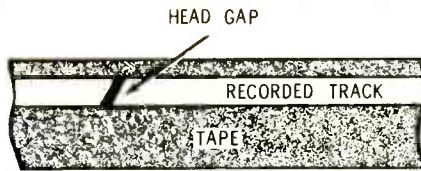

Figure 5
18. In Figure 5, the tape-head gap is not properly aligned with the track. The type of adjustment needed is: